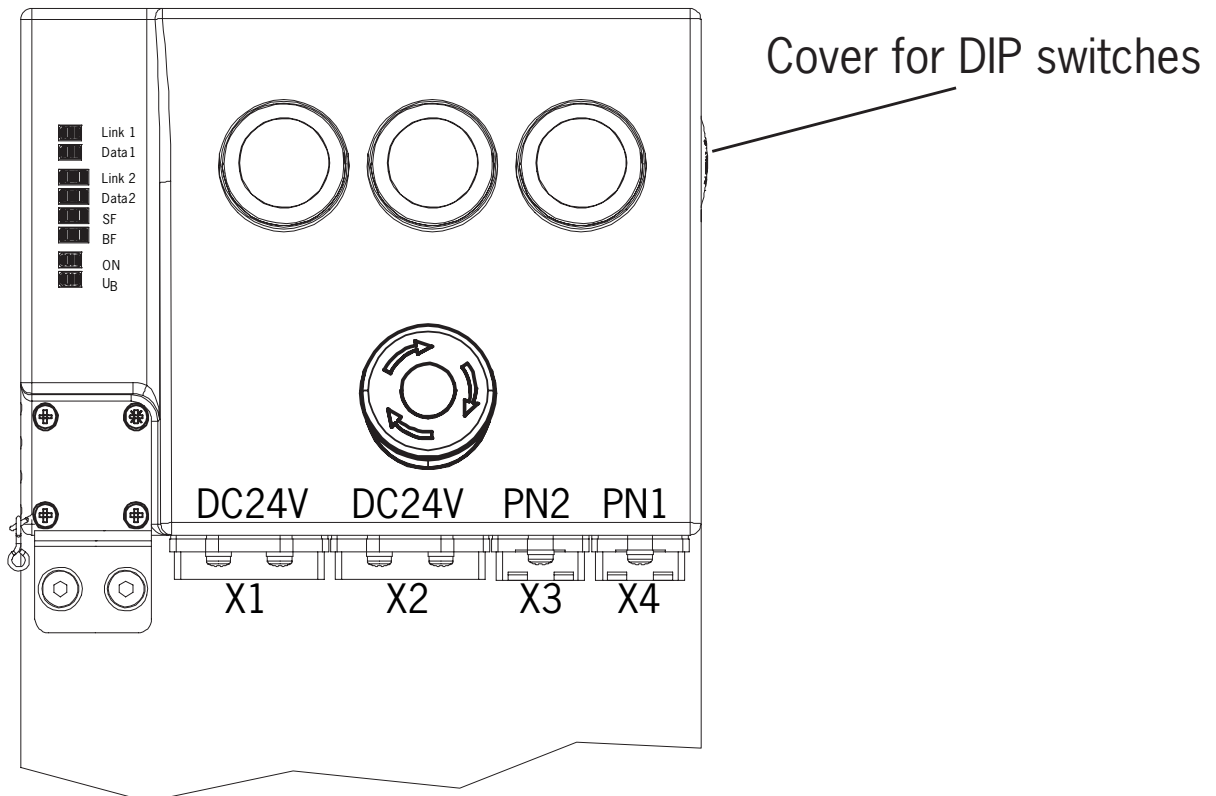

Figure 1: Position of DIP switches
4. Transfer the setting of F_DEST_ADD (DIP switches) to the replacement system. For this purpose, open the side cover on the MGB-PN (figure 1) and set the DIP switches on the replacement system to the value set on the original system.